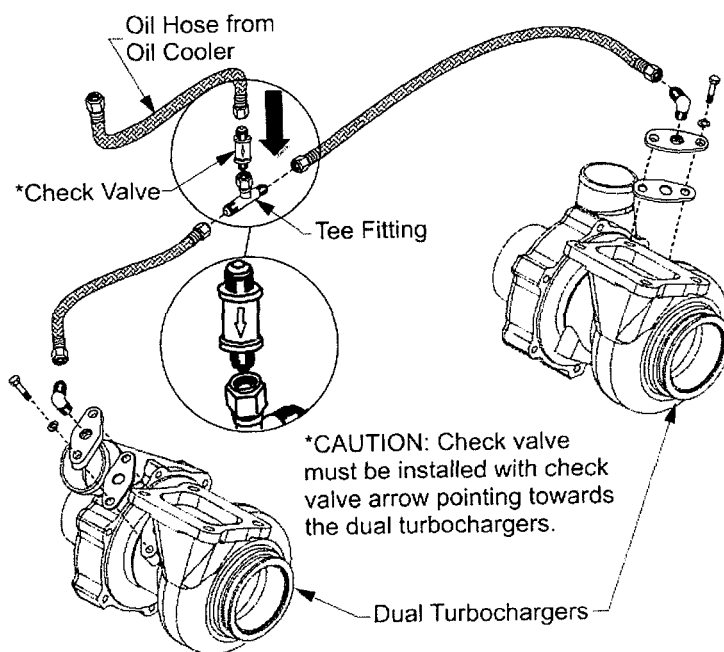

Figure 2. Dual Turbocharger Lubrication (check valve location, typical)
- b. tee fitting (Figure 2).
- b. tee fitting and torque to 150-195 in.-lbs. (reference Figure 2).